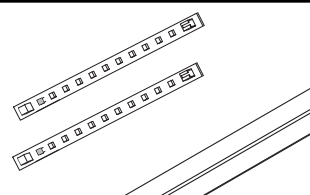

Fig. 69
- Disconnect power cord from operator (Fig. 69).